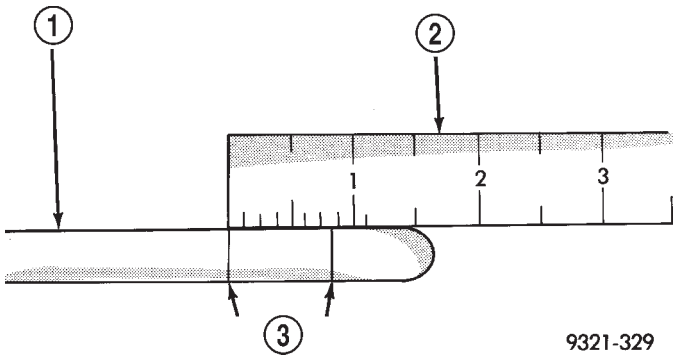

Fig. 443 Measuring Marks on Scale
- (7) Measure the distance between the two marks placed on the scale (Fig. 443). If the two marks on the scale are more than one inch apart, replace the drive chains.